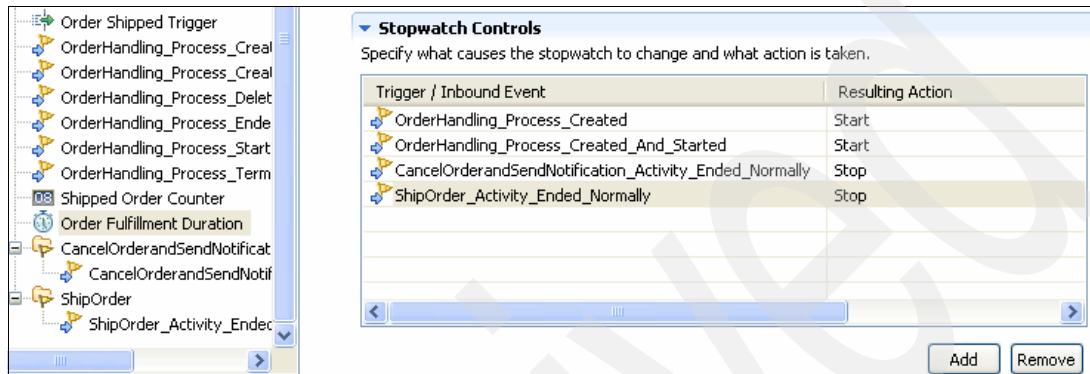

Figure 8-83 Adding inbound events and setting the resulting actions
30. In a similar way, add the other three inbound events and choose the appropriate Resulting Action as follows (Figure 8-83):